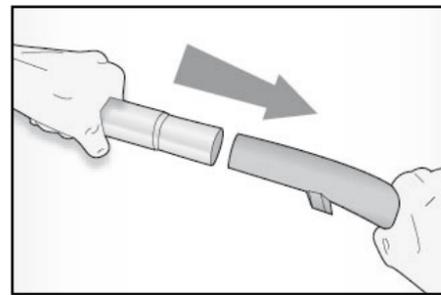

Fig. 3
- Insert the telescopic rod (12) into the handle (Fig. 3).